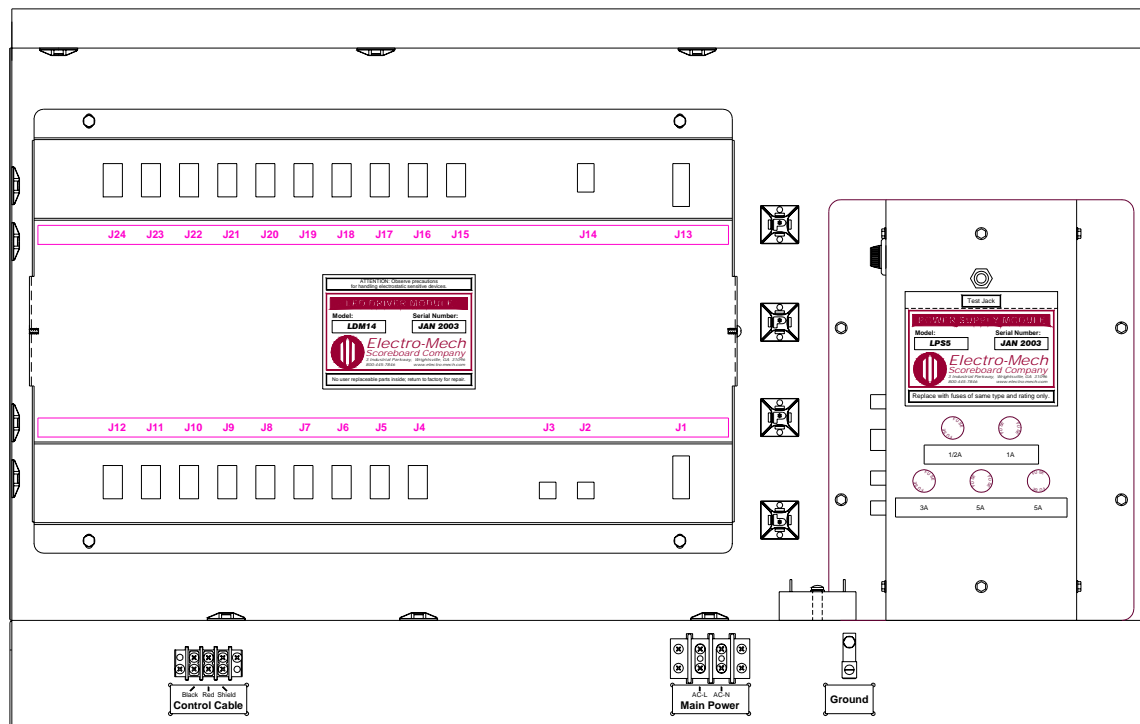

Figure 8 Access Panel Removed
4. Figure 8 shows the view behind the access panel.